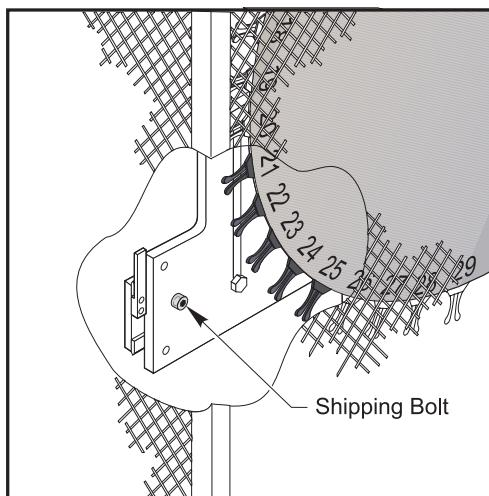

Figure 1
1. Remove the tool changer's shipping retainer bolt. Refer to Figure 1.